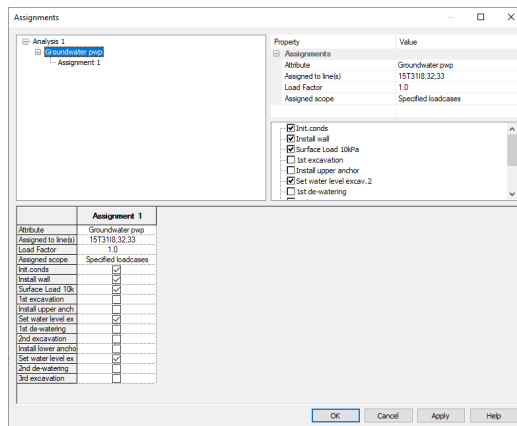

Figure 59: Selection of stages for the groundwater
- In the Attributes treeview, right-click on the load attribute **Groundwater pwp** and then click on **Edit Assignments...** Check the tick-boxes for loadcases **Init.conds**, **Install wall**, **Surface Load 10kPa**, **Set water level excav.2** and **Set water level excav.3**. Make sure that the other tick-boxes are unchecked (figure 59) then click **OK**.